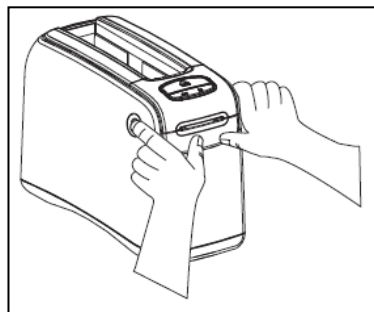

Figure 4
3. Refer to Figure 4. Press both upper cover release buttons simultaneously; the upper cover will partially open.
4. Refer to Figure 4. Press both upper cover release buttons simultaneously; the upper cover will partially open.